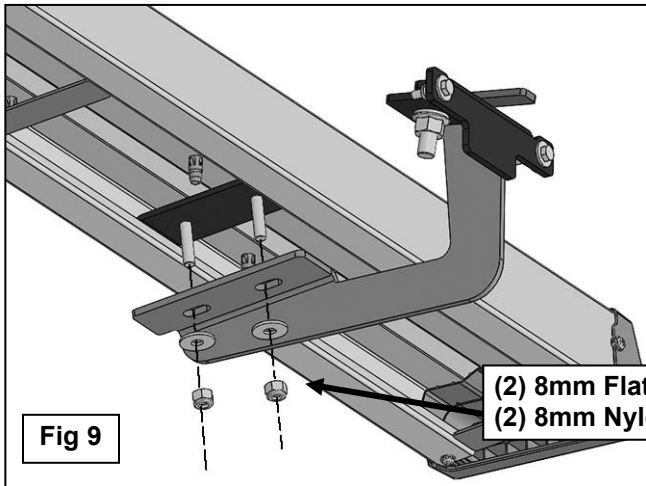

Fig 9
- Place the Running Board on top of the (3) Mounting Brackets. Lift the Running Board up and guide the studs down through the Brackets. **IMPORTANT:** Do not slide the Running Board on the Brackets, (front to back or rotate), or the finish on the Running Board may be damaged.
- Attach the Running Board to the Brackets with (6) 8mm Flat Washers and (6) 8mm Nylon Lock Nuts, **(Figure 9)**. Do not tighten hardware.